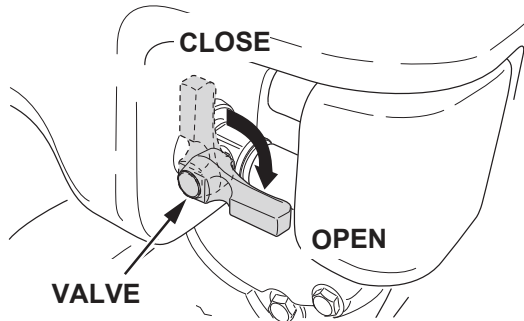

Figure 14. Water Tank Valve (Open)
1. If your application requires sprinkling work, open the valve of water tank (Figure 14).